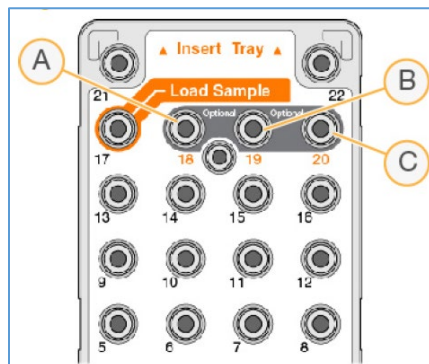

Figure 2. Reserved reservoirs in the sequencing cartridge: No. 17 for the library pool to be sequenced, no. 18-20 for custom primers.
- 9.7.4. Load **600 µl** of the denatured DNA library into the “**Load Sample**” reservoir (Fig. 2).
NOTE1: *If sequencing Illumina DNA PCR-Free Prep libraries, add 600 µl of the thawed VP10 primer into the custom reservoir, position 18 (A in Fig. 2).*